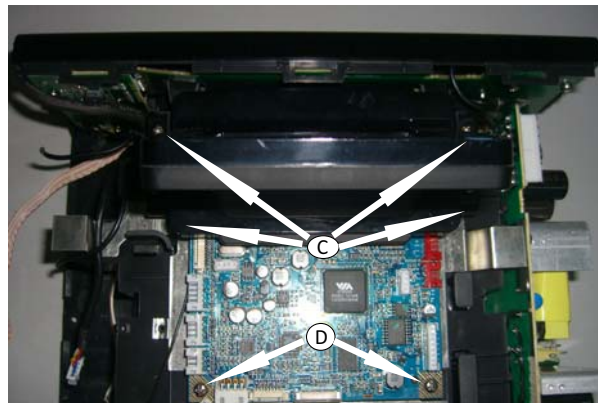

Figure 4
- 1) Loosen 5 screws "C" and 2 screw "D" as shown in figure 4.